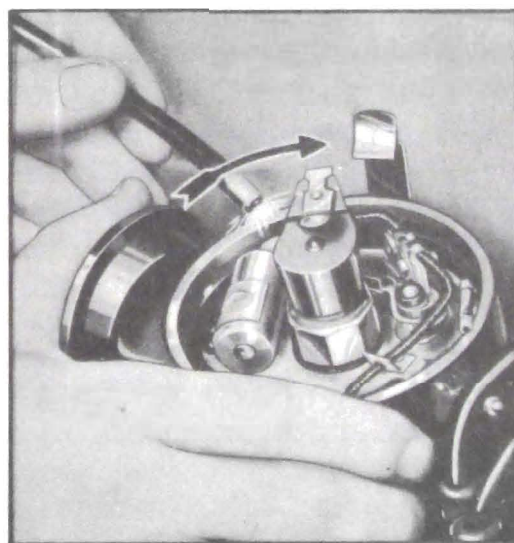

Figure 10-79—Checking Ignition Timing with Spark
4. Turn on ignition. Remove the center high tension lead from distributor cap and hold end in position to form a gap with distributor housing. Make sure that contact points are closed, then slowly move distributor housing in a clockwise direction until points just open and a spark is produced at the gap. See figure 10-79. Tighten distributor attaching bolts.